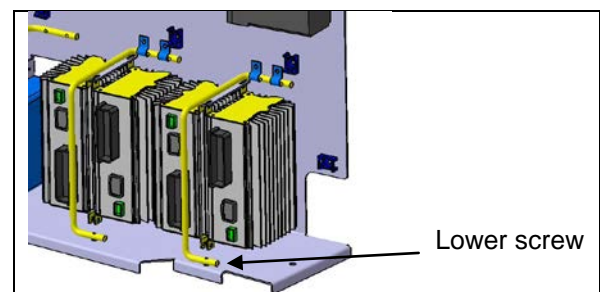

FIGURE 26: IO-B MODULE REMOVAL
- Replace the module (for IO-B modules, disconnect the green connector first, then the grey one and finish with the black connector. To disconnect the black connector, slide downwards the red latch. Remove the lower screw that holds the cable attachment rod onto the floor portion of the panel and flip the rod up, this will relieve the IO-B module, (see Fig. 26).